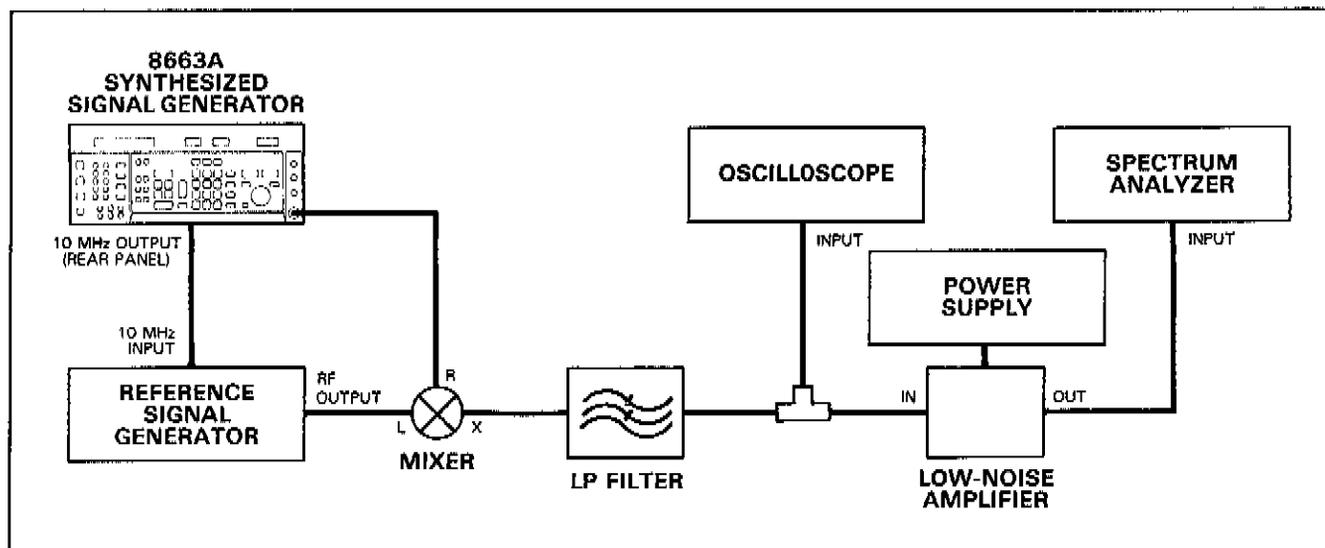

Figure 4-10. SSB Phase Noise Test Setup (Optional)
1. Connect the instruments as shown in Figure 4-10. The LP filter should have a bandwidth more than 10 times greater than the offset frequency where phase noise will be measured.